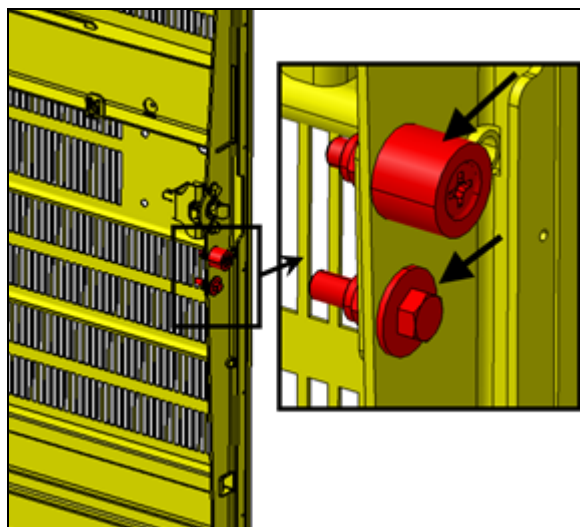

FIGURE 119
10. Check that the two items identified with arrows are snug but not tight (FIGURE 119).